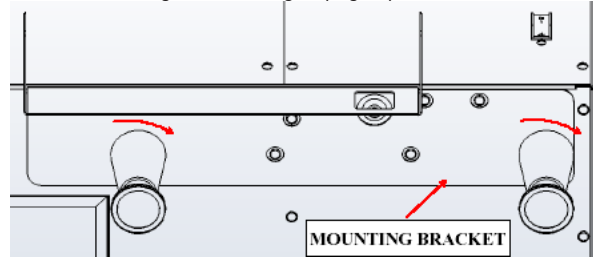

Fig. 2
2. Insert the bracket between the legs and the base of the machine and retighten the legs, (Fig. 2).